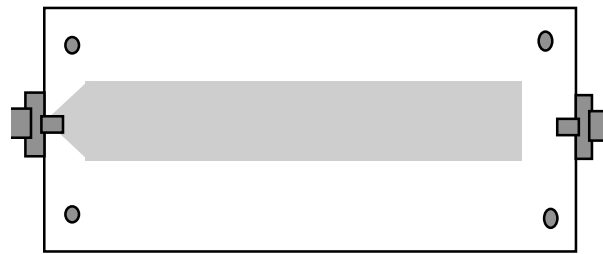

Fig. 2. Example: microstrip open-circuited stub.
Build the stub using copper tape on the 0.062" thick duroid board material. Use an Exacto knife and copper tape to construct a microstrip line with the appropriate length and width. Taper one end and solder to one of the SMA connectors. Examples of open and shorted stubs are shown in Figs. 2 and 3.
1. Open Stub. Use the layout shown in Fig. 2 to create an open stub. Looking on the network analyzer at low frequencies, S_{11} should look like an open, at the right real axis of the Smith Chart, in this case at $\Gamma = 1 \angle 0^\circ$. Now, increase frequency until the phase changes by 90 degrees (180° clockwise rotation since the Smith Chart angle corresponds to $2\beta l$). At this frequency, the line is one quarter wavelength long.